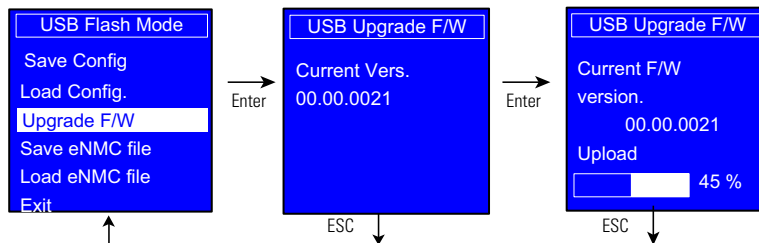

Figure 77. Example Upgrade in Progress
9. A few seconds after 100% is reached, the eNMC module restarts and then enters in Boot upgrade mode to continue upgrade. The upgrade is finished when eNMC module is restarted. This can take several minutes (see Figure 77).